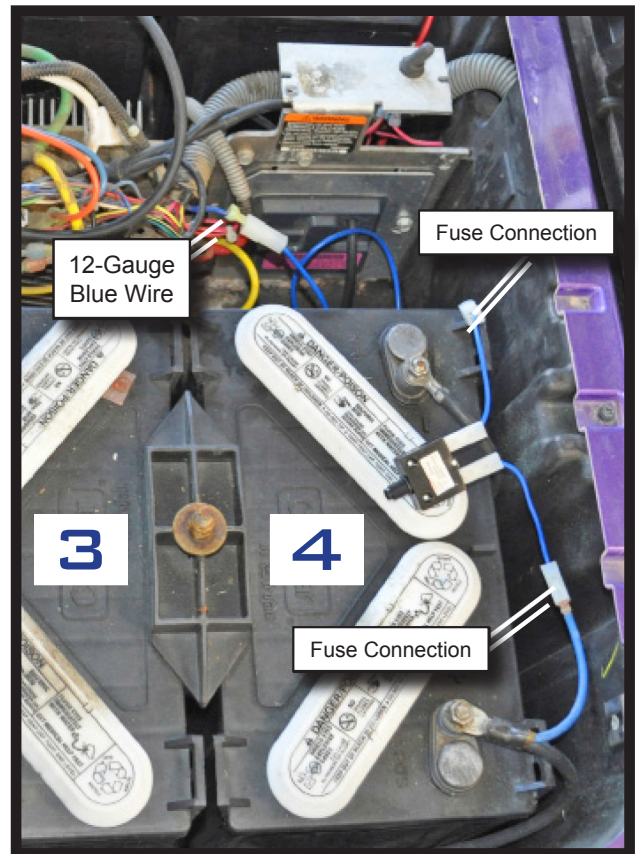

Figure 1
2. The 16 volt positive connection (see Figure 1) is located on battery #3. It is a short blue wire with a spade terminal. It is located on the negative terminal as illustrated in the picture. This connection is used in conjunction with a 16 volt to 12 volt DC to DC converter.